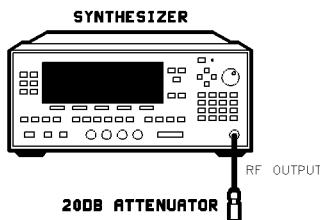

Figure 2-7. Maximum Leveled Power Test Setup
1. Set up and turn on the equipment shown in Figure 2-7. Preset the synthesizer and let it warm up for at least one hour.